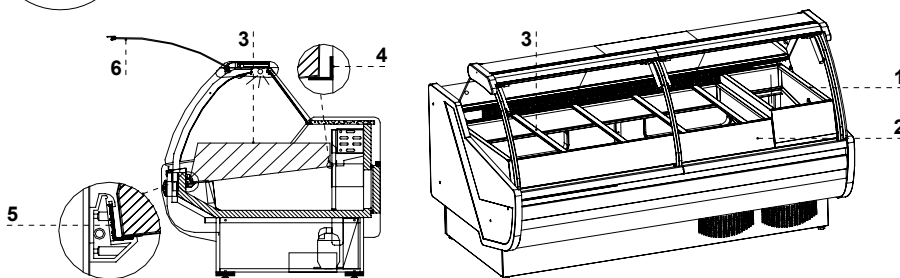

Fig.5 Mounting salad tank in „Santiago Gastro” device
1. Mount display shelves, hanging them on aluminium angle sections Fig.5/4;5
NOTE: In case of "Gastro" display cabinets, it is necessary to take out the universal salad tank from the display cabinet before mounting the glass side Fig.5/1, in order to obtain free access to the ABS side and to easily screw the glass side with holding downs of the glass Fig.6/1.